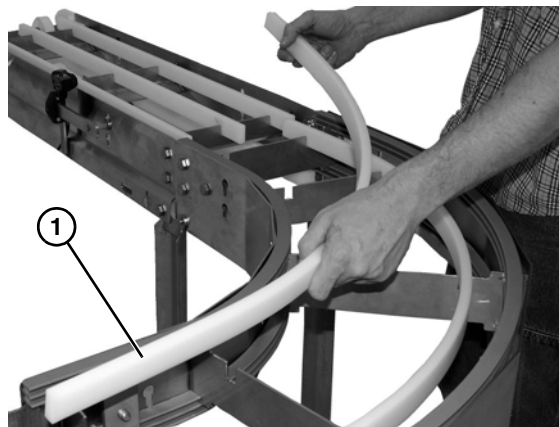

Figure 48
3. Remove curved wear strips from frame notches (**Figure 48, item 1**) when worn.